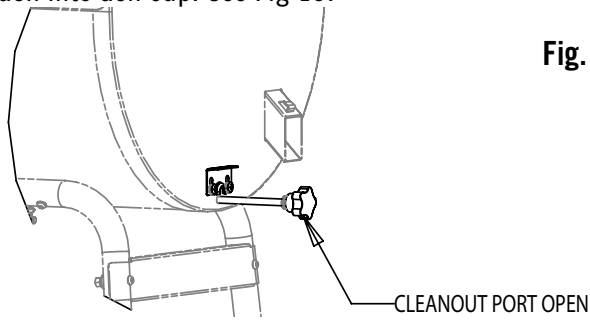

Fig. 13
- Lift pullout lock and pull clean-out port knob to empty ash into ash cup. See Fig 13.